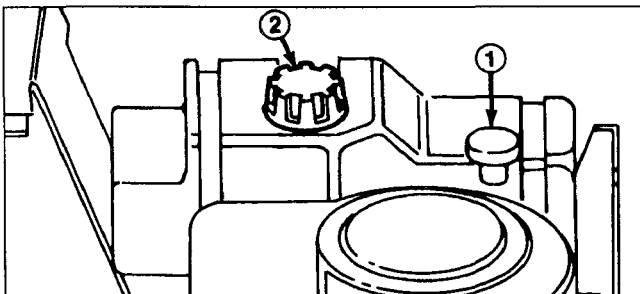

Figure 7
2. Unscrew and remove the dipstick from the oil fill tube (Fig. 7).
1. Clean area around fuel tank cap so foreign matter cannot enter tank when cap is removed (Fig. 7).